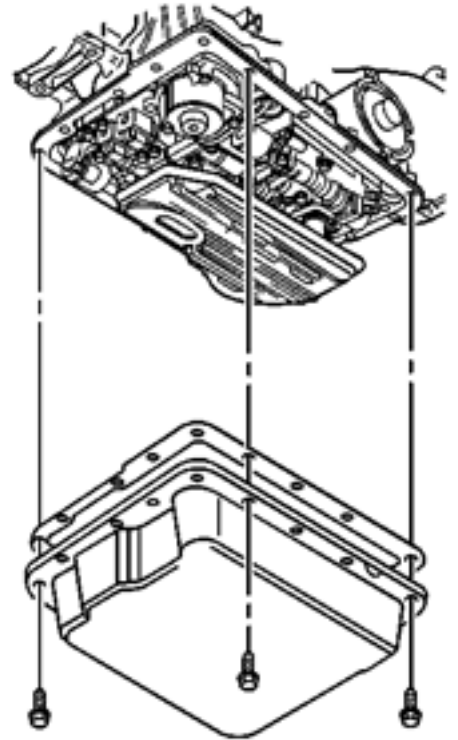

Figure 2
7. Remove the remaining oil pan bolts. **Reference Figure 2.**